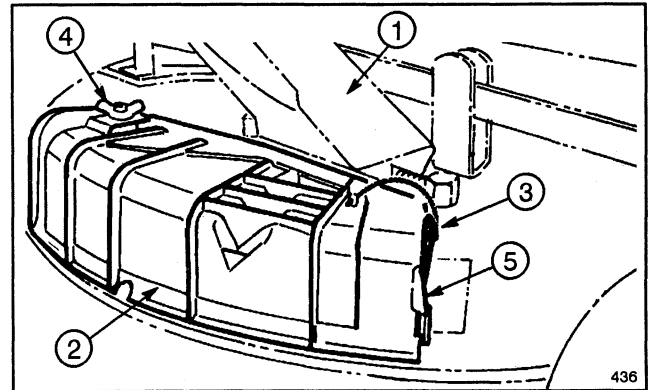

Figure 12
1. Lift grass deflector and slide plastic discharge cover into front hinge (Fig. 12).
2. Slide hinge pin through hinge (Fig. 12).
3. Secure cover to deck with wing nut (Fig. 12).
4. If any interference between the plastic discharge cover and the welded hinge on deck occurs, trim approx. 1/8" off the top of the bottom plastic tab on discharge cover (Fig. 12).
Never remove the grass deflector (Fig. 12) from the mower housing. If the discharge cover under the grass deflector is removed in order to side discharge or bag, the grass deflector routes discharged material down toward the turf. If the deflector is ever damaged, replace it. Without the deflector or complete grass catcher assembly mounted in place, discharged material could cause personal injury or blade contact could occur.